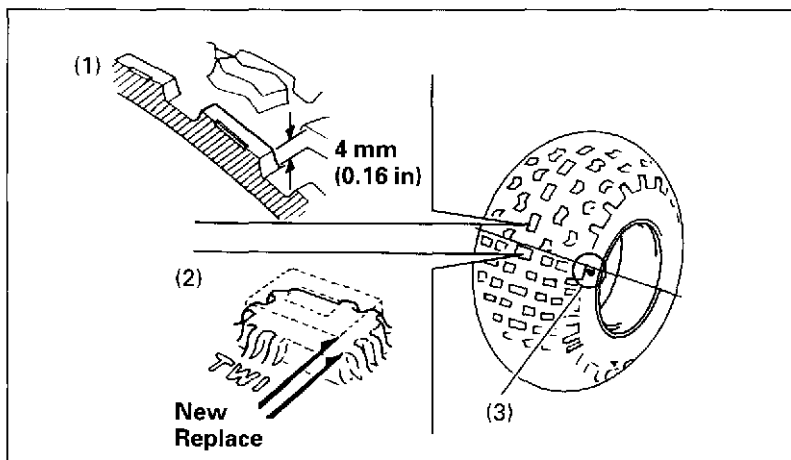

Fig. 4-32
To check the condition of a tyre tread, measure the groove depth (1) in the center of the tyre, or check the wear indicator (2) as shown in Fig. 4-32.